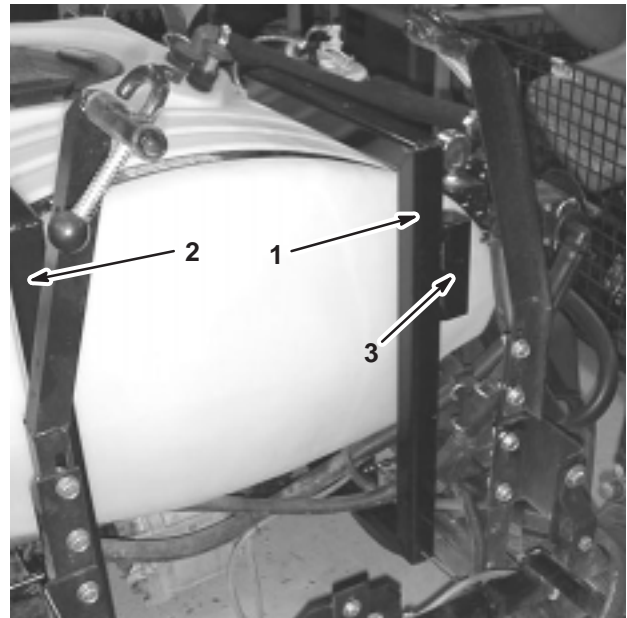

Figure 3
3. Install the right hose reel support (support with the spray gun holder tube) to the vehicle frame using 2 U-bolts and 4 flange nuts (3/8 inch). The support should wrap around the rear end of the tank (Fig. 3 and 4). Do not fully tighten the flange nuts to allow for later adjustment.